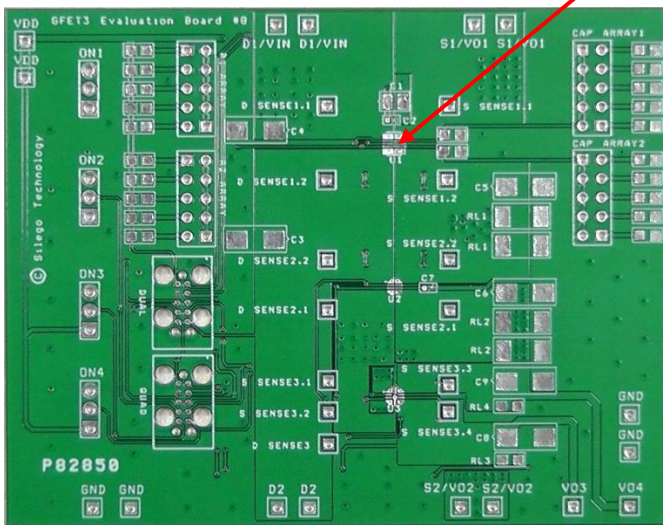

Figure 3. SLG59M1568V Evaluation Test Board
2.3. The D and S pins carry significant current. Please note how the D and S pads are placed directly on the power planes in Figure 3, which minimizes the RDS(ON) associated with long, narrow traces. The D and S pins dissipate most of the heat generated during high-load current condition. The layout shown in Figure 3 is illustrating a proper solution for heat to transfer as efficiently as possible out of the device.